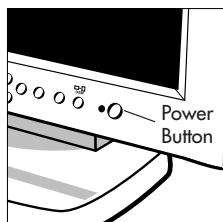

Figure F.1
8. Turn on the monitor (**Figure F.1**) and the computer.